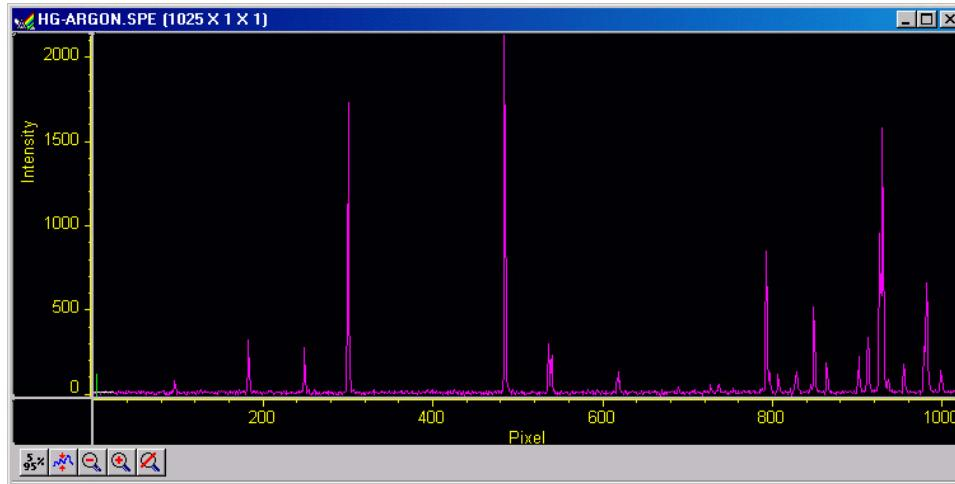

Figure 39. Typical Mercury-Argon Spectrum
The following data collection procedure works for all controllers. An underlying assumption is that a suitable light source is available. Although fluorescent room lighting may be adequate, it will probably prove more instructive to use a standard lamp, such as a mercury-argon lamp that provided the spectrum illustrated in Figure 39.
3. While observing the displayed data, adjust the system optics for the best possible spectrum (lines as high and narrow as possible). Figure 39 shows a typical mercury-argon spectrum. Your results could appear different depending on the spectrograph grating used.